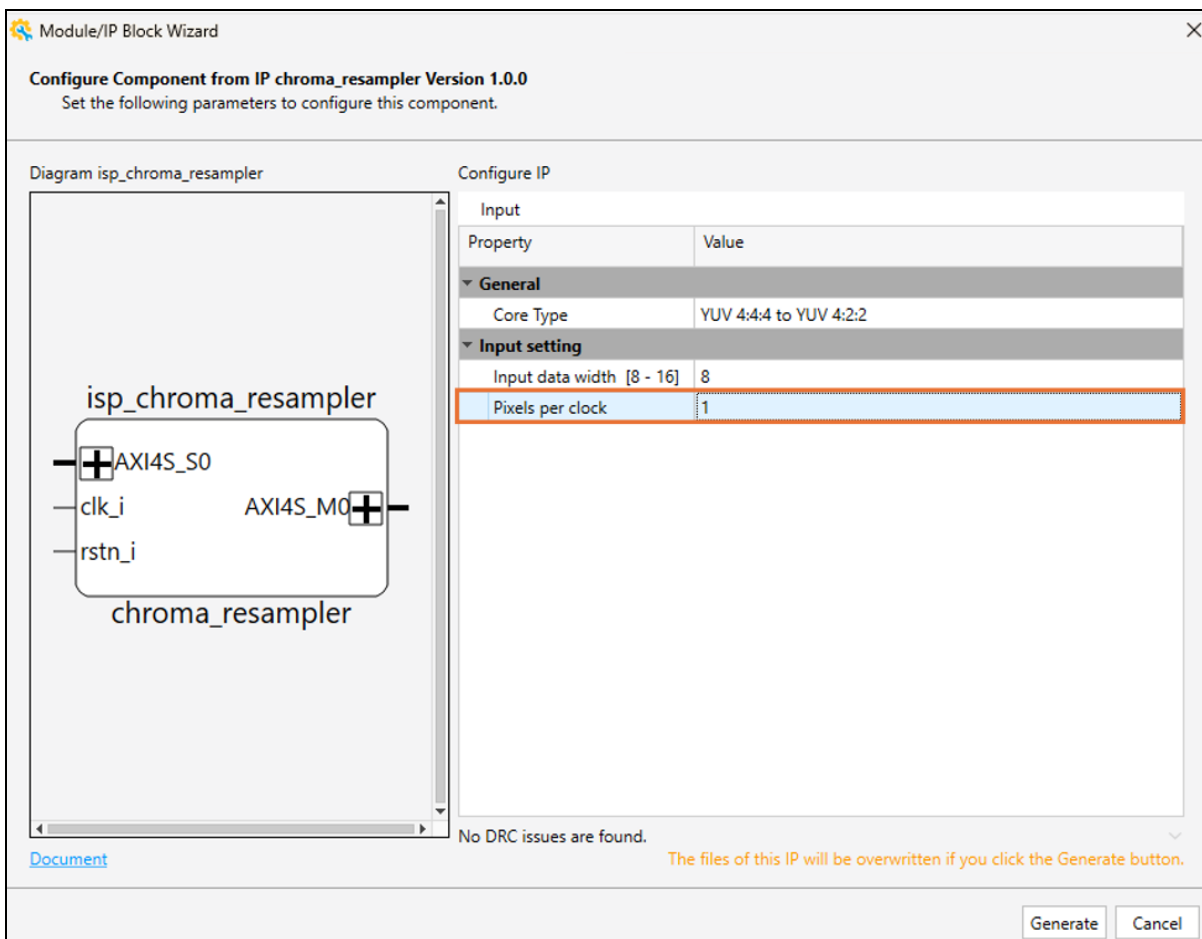

Figure 7.13. Chroma Resampler Configuration
2. Under the **Input setting**, set the **Pixels per clock** to 1 (Figure 7.13).